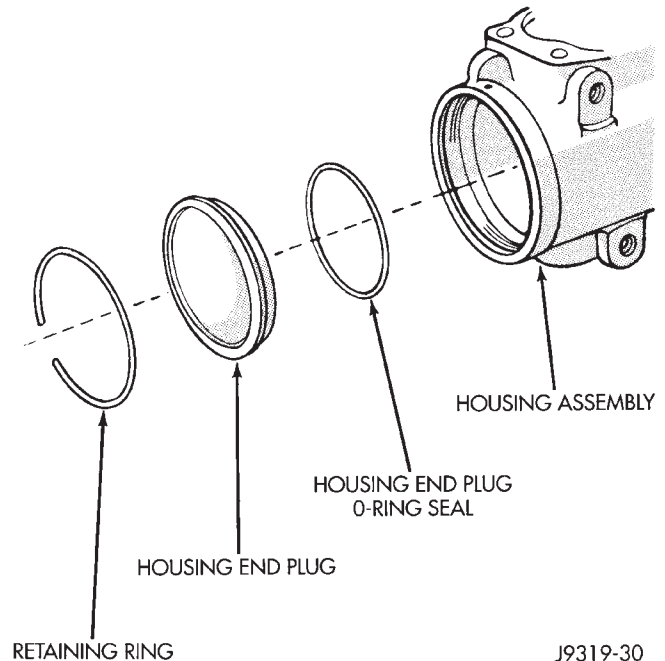

Fig. 4 End Plug Components
- (3) Remove O-ring from the housing (Fig. 4).